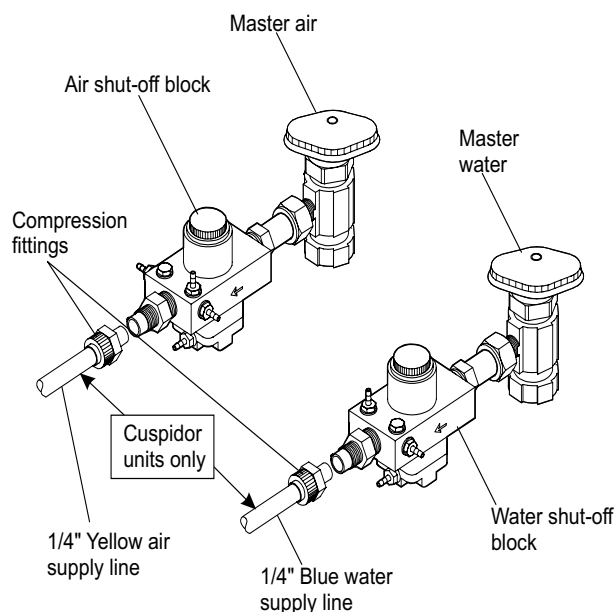

Figure 2
3. (Cuspidor units only) Remove the compression fittings on air and water shut-off blocks using a 7/16" wrench (figure 2). Install the 1/4" air and water supply tubing onto compression fitting. Reinstall fitting and tighten securely.